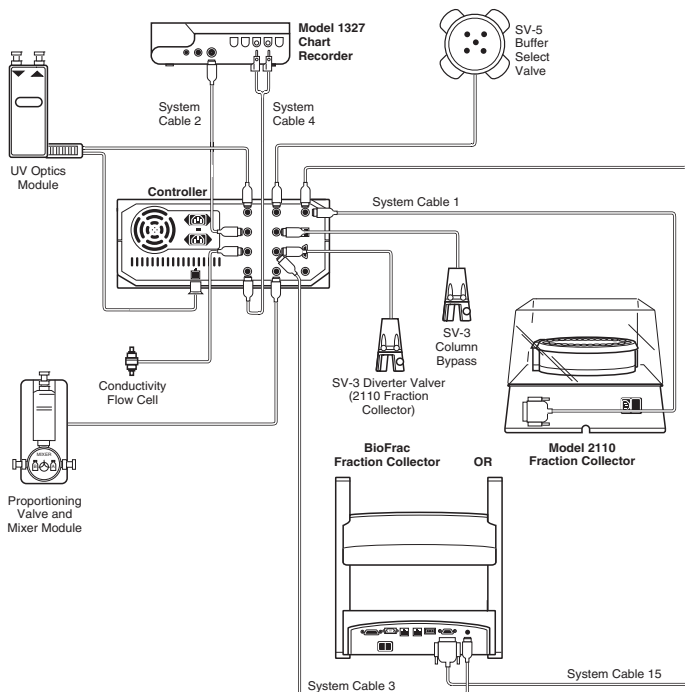

Fig. 2.
3. Connect cables from UV optics module, conductivity flow cell, proportioning valve/mixer, and valves to the appropriate receptacles on the rear panel of the BioLogic LP as shown in Figure 2.